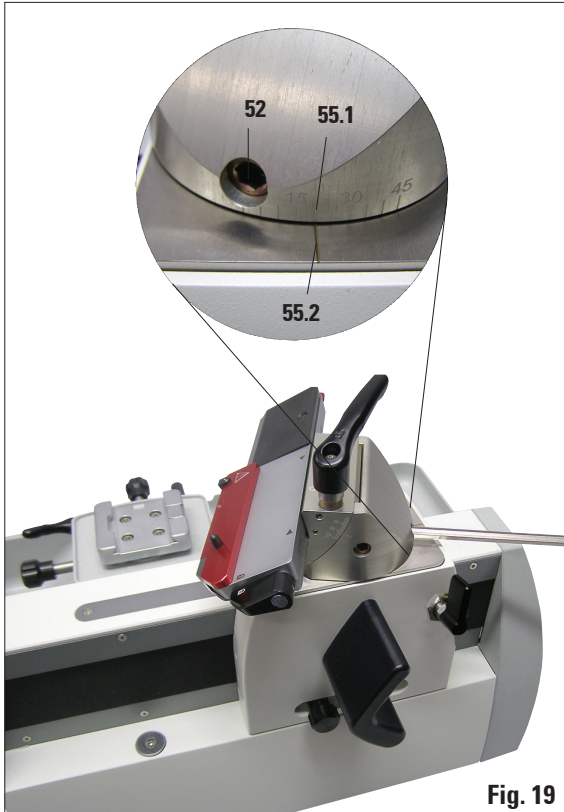

Fig. 19
- To clamp the blade holder on the grooved plate, tighten the screw (52) on the back of the blade holder base (17) using a size 6 Allen key (Fig. 19).